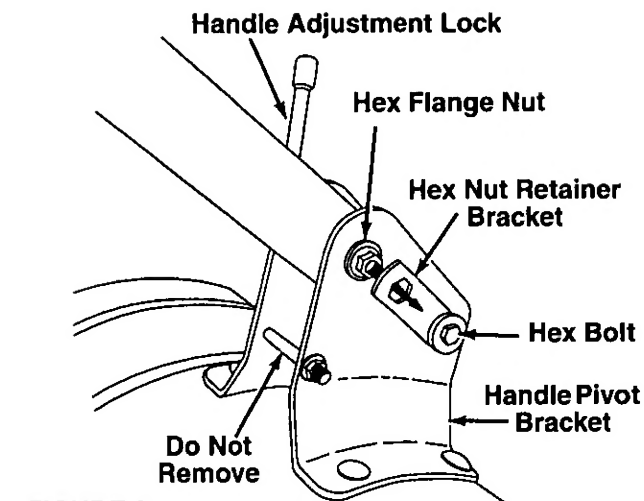

FIGURE 2.
1. Remove the handle mounting hardware from the handle pivot bracket. Do not remove the lower rear hex bolt and flanged lock nut. See figure 2.
3. Place handle assembly in position in the handle pivot bracket. Line up the holes in handle assembly with the holes (and slots) in the pivot bracket. See figure 2.
6. Place the flange nut between the top of the hex nut retainer bracket and the pivot bracket. See figure 2.